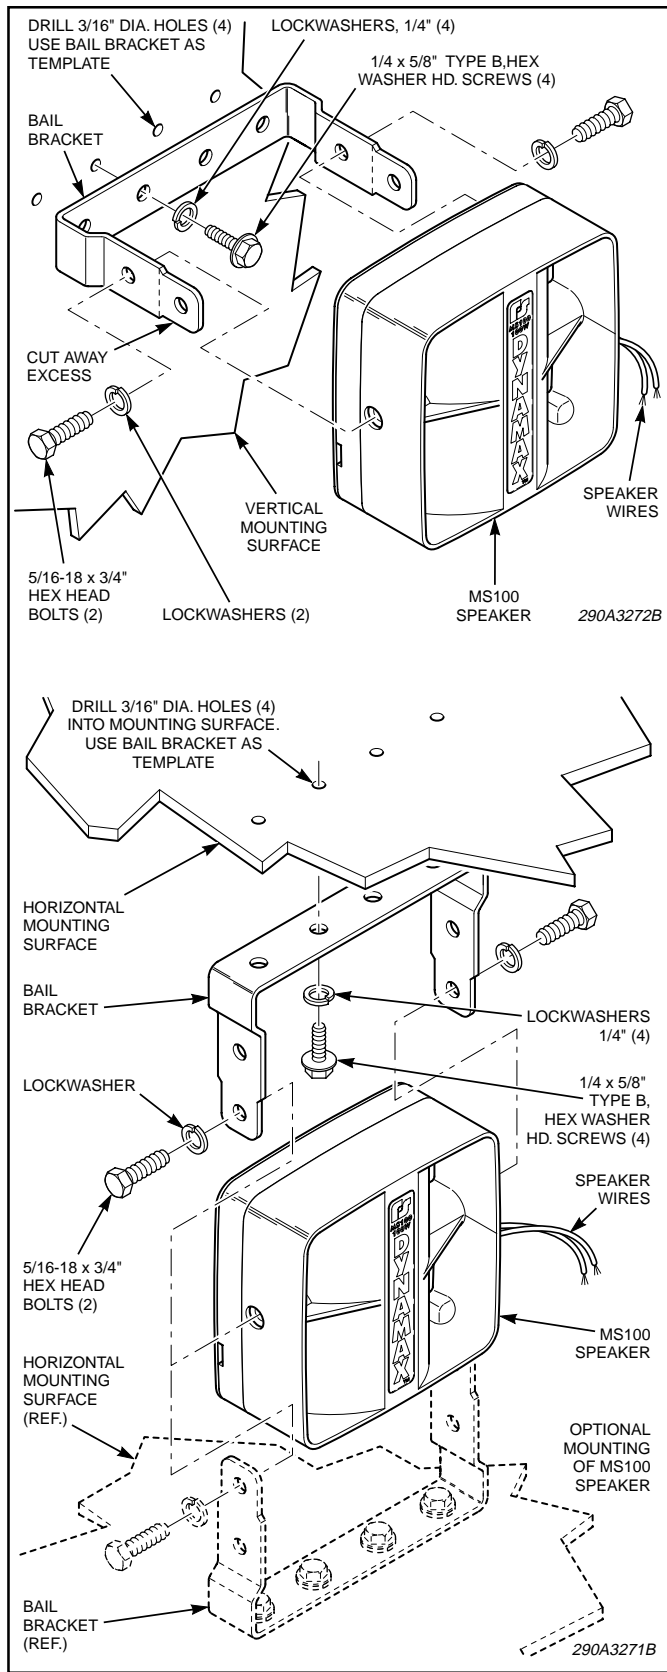

Figure 1.
b. Attach the supplied bracket to the speaker using the 5/16-18 x 3/4" bolts and split lockwashers as shown in figure 1. Do not tighten the bolts at this time.
e. Secure the bracket, or assembled unit, unit to the mounting surface using the 1/4" x 5/8" type B screws and 1/4" lockwashers as shown in figure 1. Position the front of the speaker perpendicular to a horizontal mounting surface or parallel to a vertical mounting surface, and secure the speaker to the bracket with the 5/16-18 x 3/4" bolts.